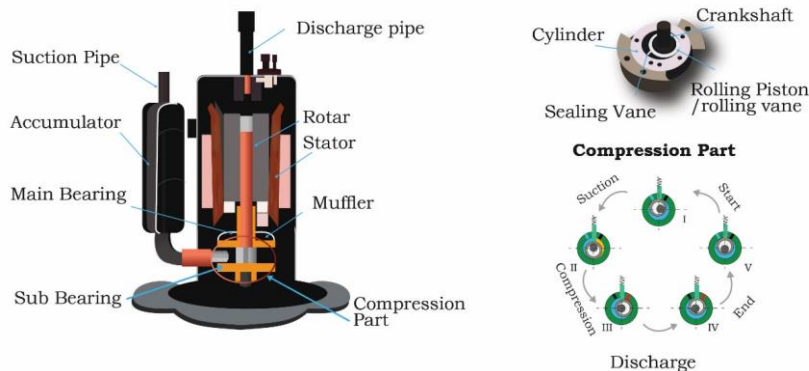
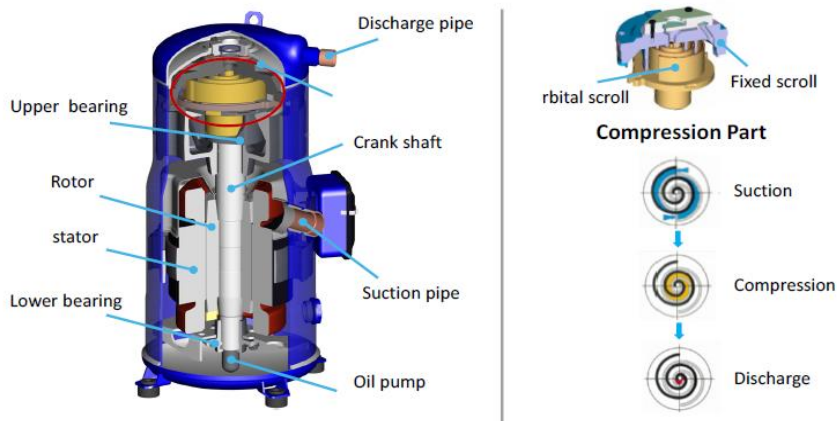

Fig. 3.39: Rotary-vane compressor (a) Cut-away view (b) Theory of operation benefits
Fig. 3.40: Rotary-scroll compressor (a) Cut-section (b) Theory of operation
vanes used. Each operational cycle of the compressor involves five key actions: start, suction, compression, discharge, and end. The compressor's capacity can be adjusted by varying the cylinder volume. The typical cut section of the rotary-vane compressor is shown in Figure 3.39 (a). Parts of the reciprocating compressor are shown in Figure 3.39 (b).
- b) Rotary-Scroll Compressor – In contrast to a rotary-vane compressor, the rotary-scroll compressor is designed to handle larger volumes of gaseous refrigerant and compress it to higher pressures and temperatures using a fixed orbital scroll. The process begins with the intake of cool vapor refrigerant from outside the fixed scroll. This refrigerant is then compressed between the fixed and the orbital scrolls. Finally, the compressed refrigerant is expelled from the centre of the fixed scroll through continuous displacement. The rotary-scroll compressor can also be categorized based on drive speed, which can be either constant or variable. Each operation cycle includes three actions: suction, compression, and discharge. A common industry term used to describe this type of compressor is digital scroll compressor. The typical cut section of the rotary-scroll compressor is shown in Figure 3.40 (a). the theory of operation for the compressor is shown in Figure 3.39 (b).